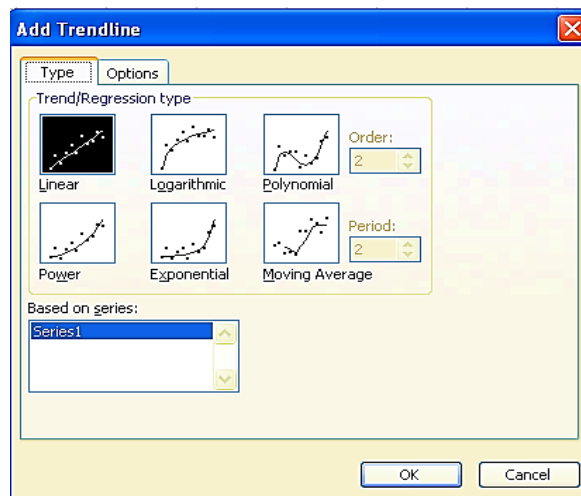

Figure 14
- 3- Select Linear Trend\Regression type. (**Fig. 14**)